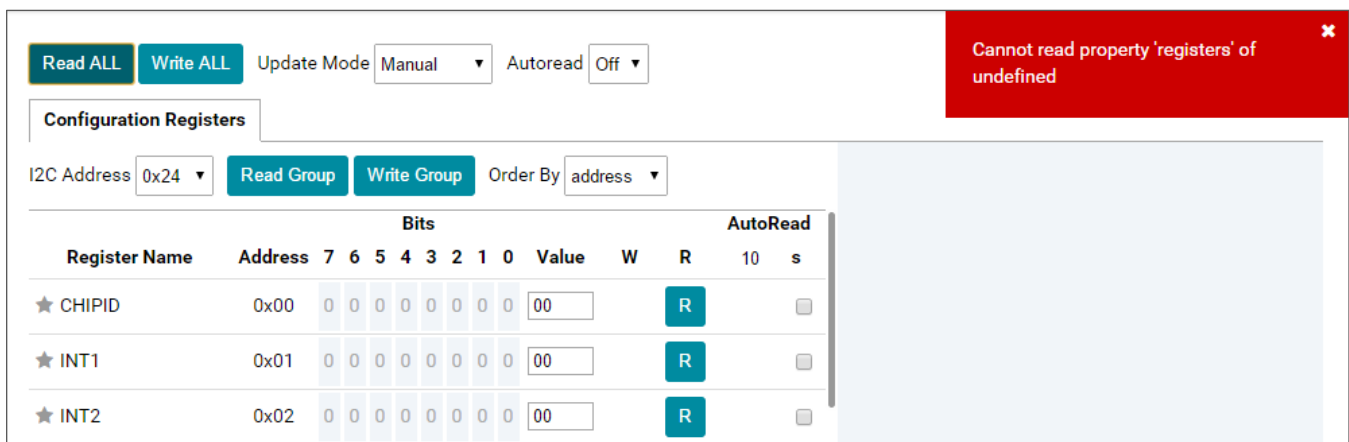

Figure 10. Failed GUI Communication to TPS65218D0 Notification
- If all register data remains 0x00 and a red notification appears (as in Figure 10), it indicates the computer can talk to the USB2ANY but cannot communicate with the TPS65218D0 device. The primary cause of this issue may be that the power switch for the BOOSTXL-TPS65218 is in the OFF position, the socket does not have a sample installed, or the USB cable is not plugged into the MSP430F5529 LaunchPad or the computer. In case of either issue, the test setup of the EVM must be debugged before continuing.